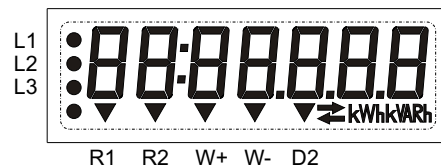

Figure 1
- Display: LCD custom design 42x12 mm as shown in fig. 1
According to figure 1, the LCD displays: